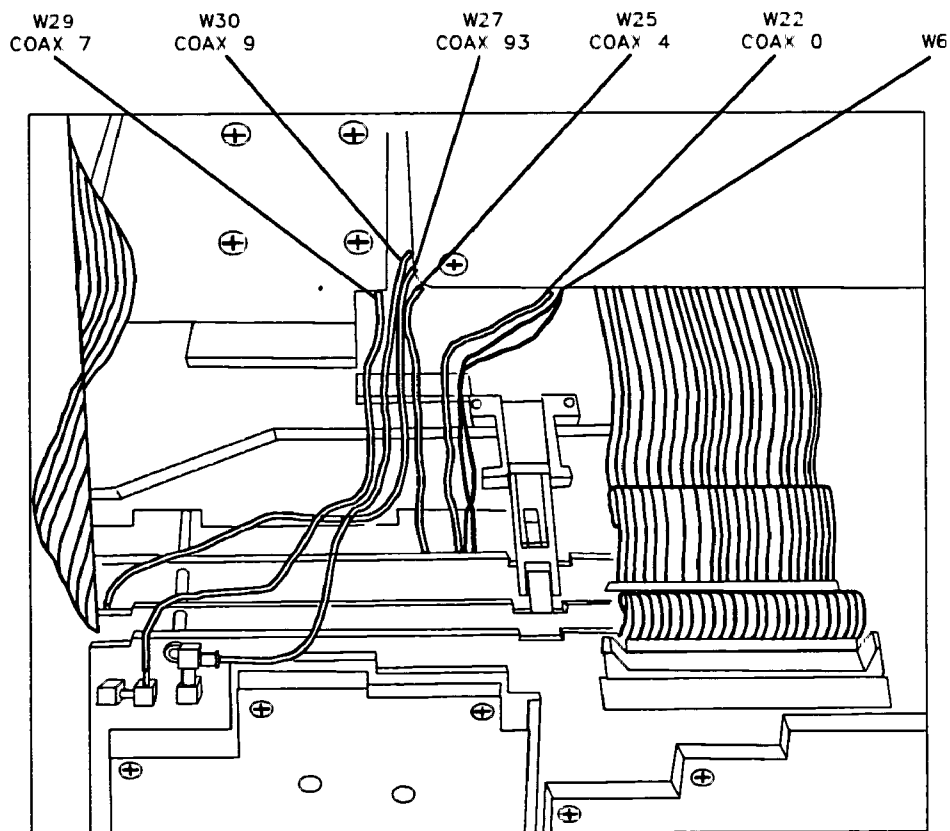

Figure 3-10. Coaxial Cable Clip
5. Locate the cable clip on the inside of the right-side frame. Make sure that the coaxial cables are routed properly on the clip as illustrated in Figure 3-10.